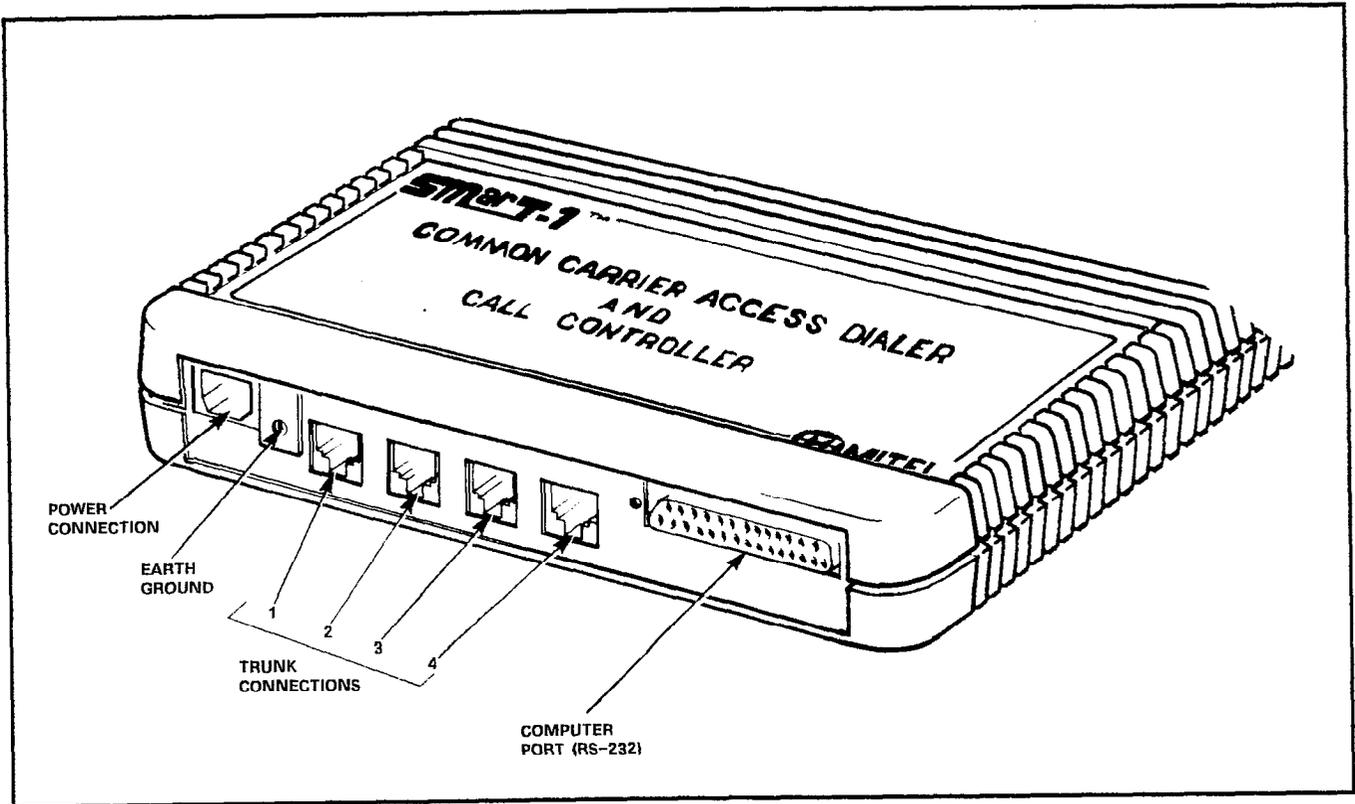

FIGURE 2: CONNECTOR PANEL
3.04 Seven connections are required for operation. These are made to the connectors located along one edge of the housing (refer to Figure 2). Make the connections as follows: